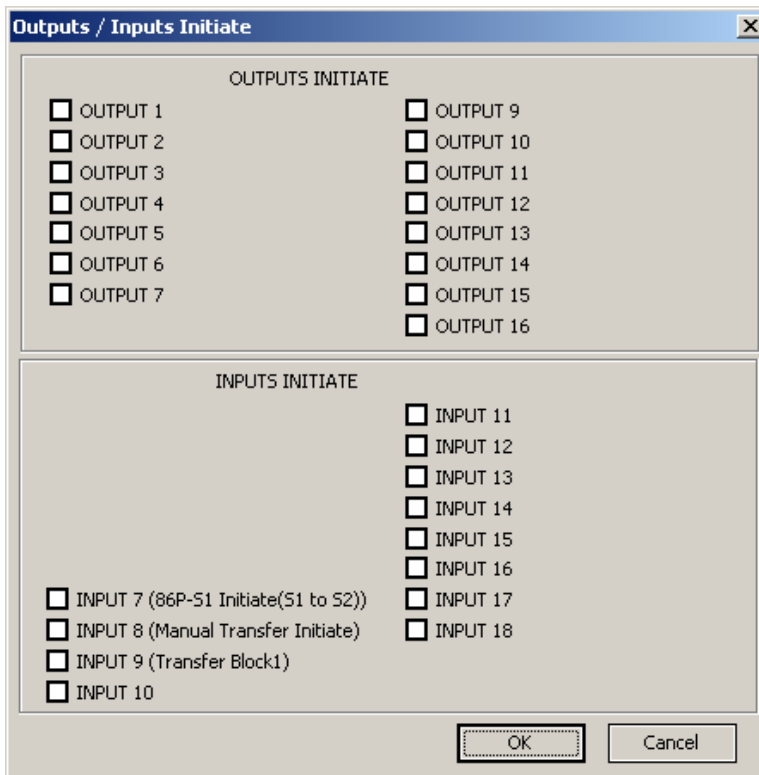

Figure 4-75 50BF #1 Source 1 Breaker Failure Initiate Inputs/Initiate Outputs Selection Dialog Screen
**I/O Initiate** — The I/O Initiate button opens the 50BF #1 Source 1 Breaker Failure Initiate Inputs/Initiate Outputs Selection Dialog Screen (Figure 4-75). This screen allows the selection of an input or inputs that can be used to initiate a breaker failure. Any of the outputs can also be selected to initiate a breaker failure.